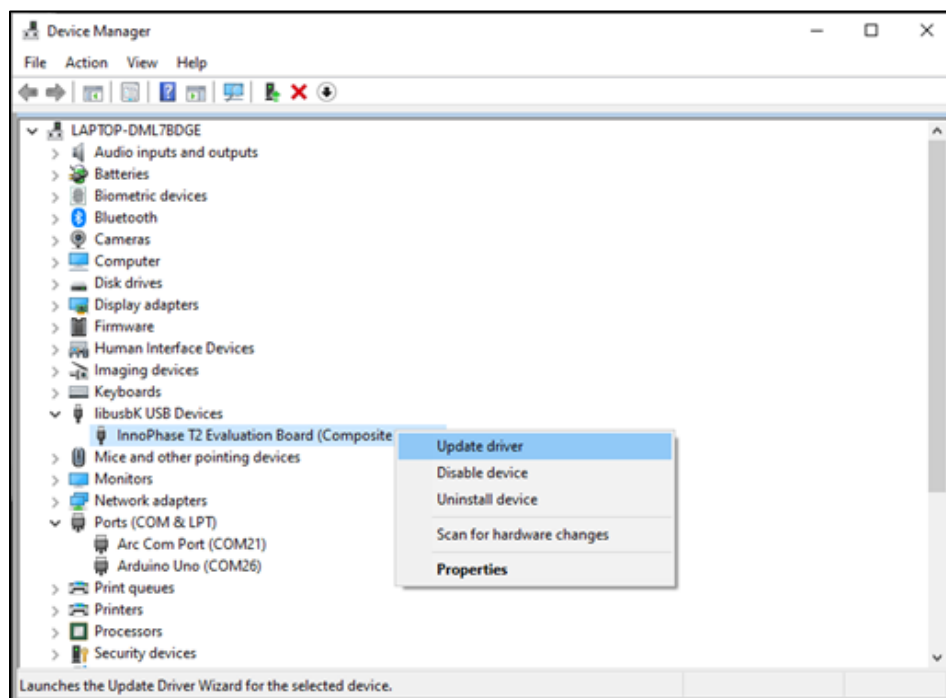

Figure 11: Device Manager
1. Expand the libusbK USB Devices and right click on the InnoPhase T2 Evaluation Board. Click on Update Devices as shown in Figure 11.